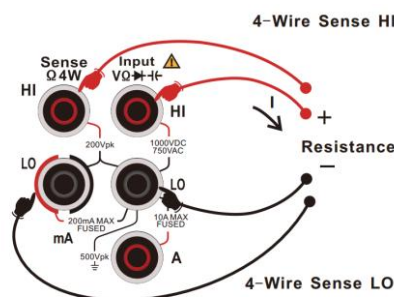

Figure 2-16 Connection of 4-wire resistance measurement
- 2) Connect the test leads to the measured resistance as Figure 2-16, connect the red test lead to terminal HI, and the black one to terminal LO. The test leads above are constant current source output circuits. Connect the red test leads to terminal Sense HI, and the black one to terminal Sense LO, and these 2 test leads are voltage gauging circuits.